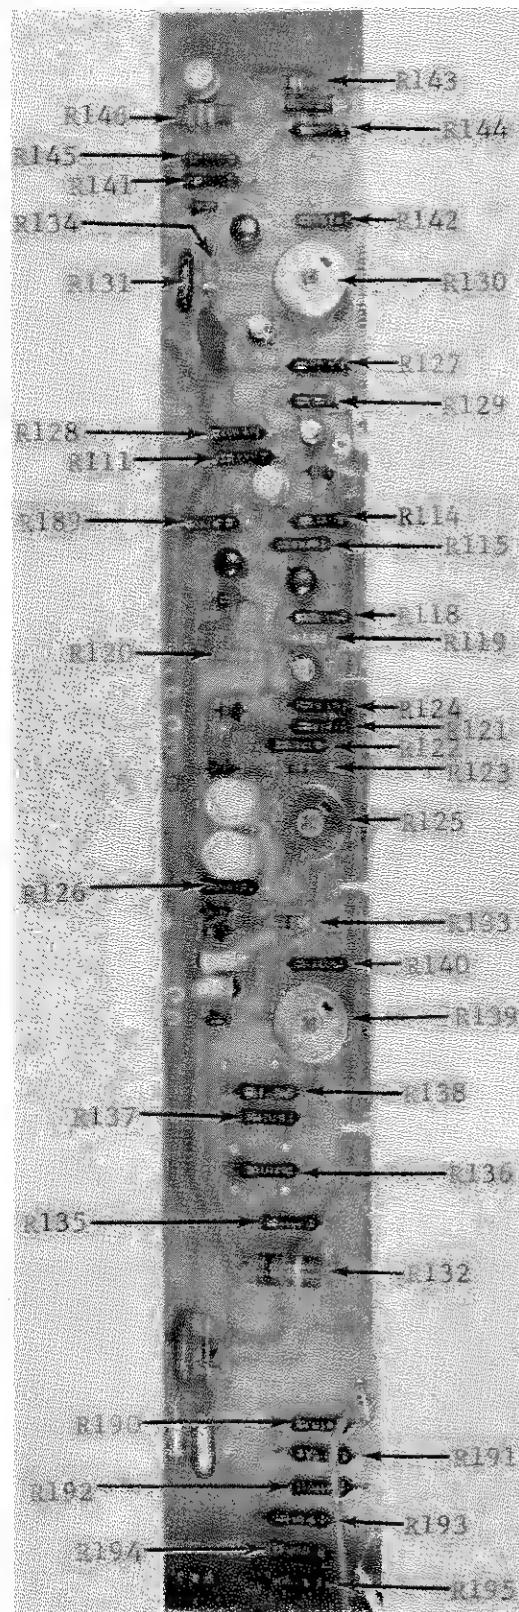

FIGURE 17. Resistor Locations on Front Section of PC-131.
c. Connect the Model 153 between the base of transistor Q101 and ground. Turn the Model 246 POWER ON Switch to 'on'. Adjust the ZERO potentiometer R125 (Figure 17). Turning the potentiometer should swing the voltage from approximately +1 to -1/2 volt.
Connect the Model 153 to the Model 246 OUTPUT Receptacle and set it initially to its 10-millivolt range. Adjust the ZERO potentiometer, R125 (Figure 17), for zero output ± 1 millivolt.
b. The Model 662 should read the Model 246 output to $\pm 0.5\%$. If necessary, adjust the output using the CAL potentiometer R139 (Figure 17). If the potentiometer does not have sufficient range, add or remove jumpers across resistors R136, R137 and R138 (see schematic diagram 21176E).
c. For a quick check, measure the output voltage at several different settings. Adjust the CAL potentiometer R139 (Figure 17) for minimum percentage deviation from the dial setting.
Adjust the CURRENT LIMIT potentiometer R130 (Figure 17) until the output current is 12.5 milliamperes ± 0.2 millampere.